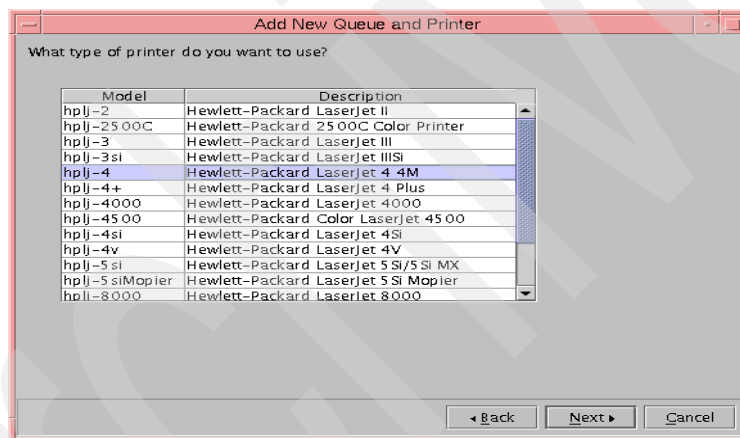

Figure 76. JetDirect-attached printer model
5. From the list shown in Figure 76, we selected **hplj-4**, which corresponded with our HP LaserJet 4M, and clicked **Next**.